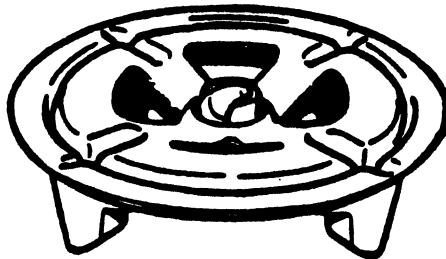

Fig 1-4. M3A1 Baseplate.
c. The M3A1 baseplate (fig 1-4) is of one-piece construction. It supports and aligns the mortar for firing. During firing, the breech plug on the barrel is sealed and locked to the rotatable socket in the baseplate.